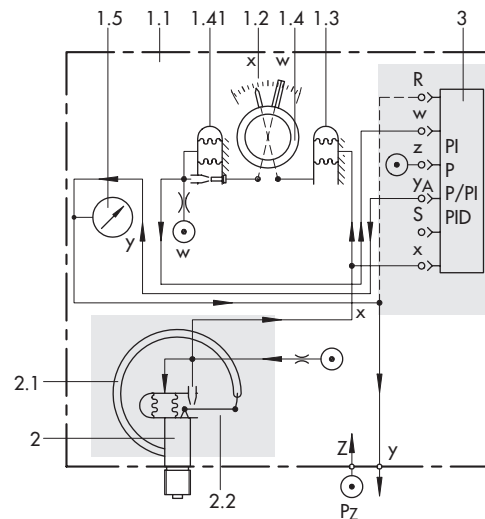

Fig. 3 · Fixed set point controller for pressure, version with Type 3432-01 Controller Station, functional diagram
## Principle of operation (see Figs. 3 and 4)
The controller station (fixed set point controller) shown in Fig. 3 consists of scale (1.2), controlled variable display (1.3), set point adjuster (1.4), and plug-in connections for a controller module (3). These pneumatic connections are self-sealing when the module is unplugged. The controlled variable signal  $x$  produces a deflection on the bellows measuring system of the controlled variable display (1.3) which is transmitted to the pointer over a gear mechanism. The set point (reference variable  $w$ ) can be adjusted on a scale at the controller front. The position of the set point adjuster is transmitted to the set point transmitter (1.4) over a gear mechanism. This pneumatic servo system (2.2) converts the adjusted set point into a pneumatic set point signal ( $w$ ), which is fed to the controller module. The controller module compares the controlled variable signal and the set point signal ( $x$  and  $w$ ) and produces an output signal  $y_A$  depending on the system deviation and the adjusted control parameters. The output signal is connected to the output signal display (1.5) and the output  $y$ .
The controller station shown in Fig. 4 largely corresponds to the version shown in Fig. 3. However, the station additionally contains a manual/automatic switch (1.6), a manual adjuster (1.7) and a differential pressure display (1.8). When the switch is in position AUTOMATIC, the output signal display (1.5) and output  $y$  are connected to the automatic output signal  $y_A$ . When the switch is in position MANUAL, the output signal display and output  $y$  are connected to the manual output signal  $y_H$  set at the adjuster. Smooth changeover from manual to automatic operation is possible when the differential pressure display indicates that  $y_A$  and  $y_H$  are identical.